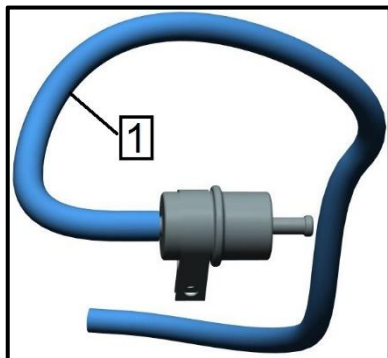

Fig.19
11、 Remove the hose (POS. 1, Figure 19) from the fuel filter connector.